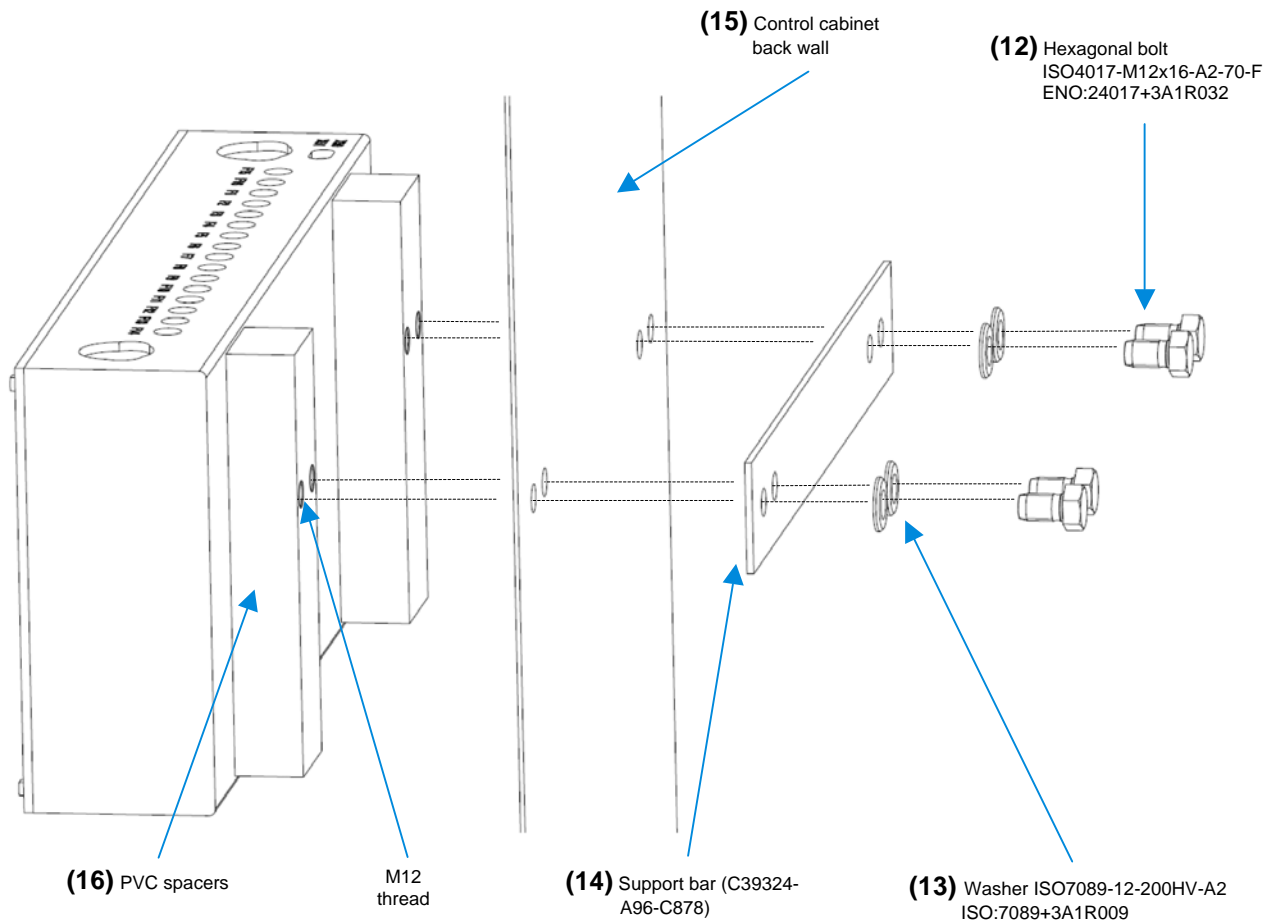

Fig. 6 - Control Cabinet Mounting
- Housing with two rear PVC spacers (**Fig. 6/16**) for cable feed-through.
- Attachment to control cabinet back wall with 4 pcs. M12 hex bolts (**Fig. 6/12**).
The Power-D-Box is attached to the outside of the control cabinet's back wall by 4 pcs. mounting bolts DIN 933-M12x16, washers DIN 125-B13 and support bar C39324-A96-C878. The mounting bolts (Fig. 6/12) are screwed into the Power-D-Boxes' PVC spacers (Fig. 6/16), incorporating the control cabinet's interior back wall (Fig. 6/15), washers (Fig. 6/13), and support bar (Fig. 6/14). Max. tightening torque 16 Nm.